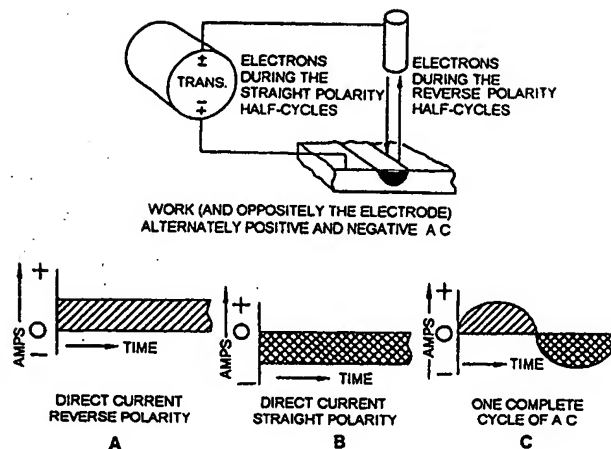
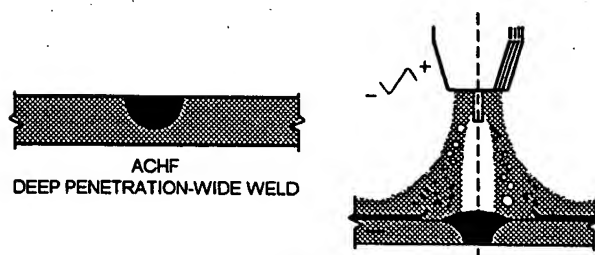

Figure 8-5.—The ac welding cycle.
Figure 8-6.—ACHF combines the desired cleaning action of DCRP with the good penetration of DCSP.
**ALTERNATING CURRENT.**— As shown in figure 8-5, ac welding is actually a combination of DCSP and DCRP; however, the electrical characteristics of the oxides on the metal often prevent the current from flowing smoothly in the reverse polarity half of the cycle. This partial or complete stoppage of current flow (*rectification*) causes the arc to be unstable and sometimes go out. Ac welding machines were developed with a high-frequency current flow unit to prevent this rectification. The high-frequency current pierces the oxide film and forms a path for the welding current to follow. The effects of alternating current high-frequency (ACHF) are shown in figure 8-6. Notice that ACHF offers both the advantages of DCRP and DCSP. ACHF is excellent for welding aluminum.